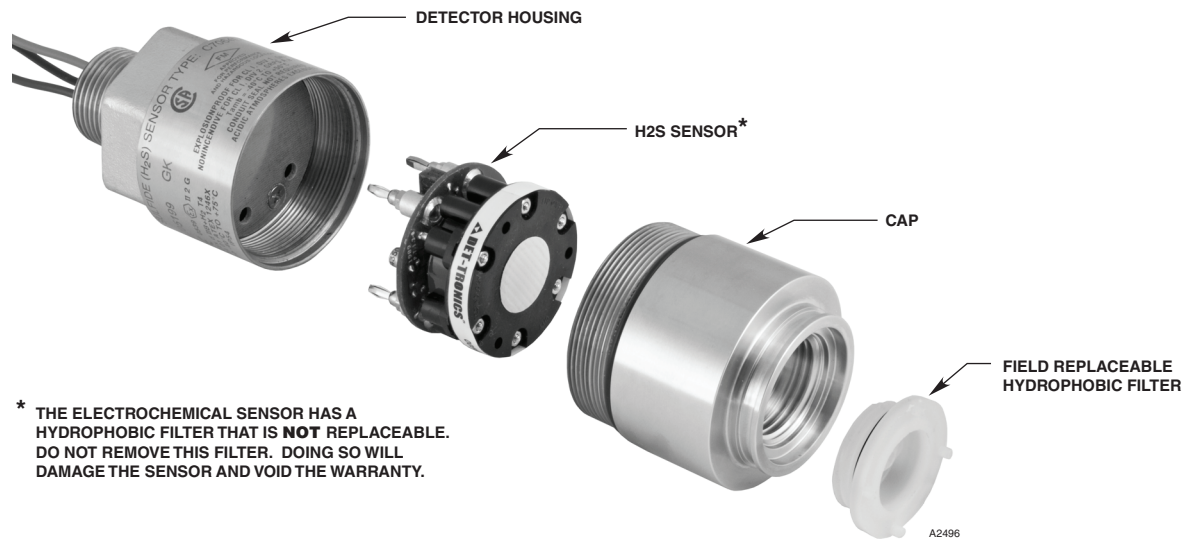

Figure 8—C7064E Detector
6. After confirming that all connections are properly terminated and other installation requirements such as conduit seals are installed as required, the sensor may be installed within the C7064E detector. Begin by removing the cap from the detector housing. Refer to Figure 8.
2. Remove the cap from the detector housing. See Figure 8. (There is no need to remove the detector housing from the junction box.)